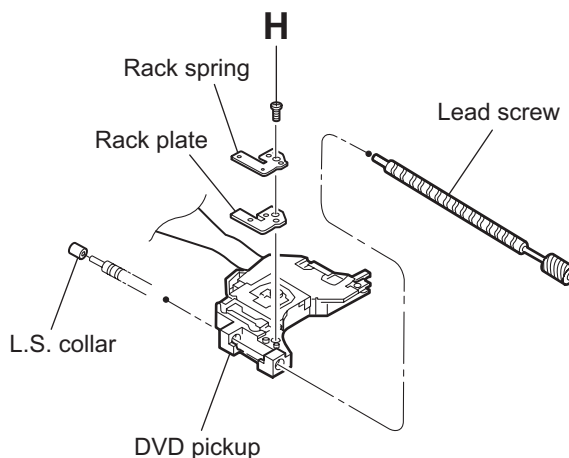

Fig.19
- (4) Remove the screw **H** attaching the rack spring/ rack plate on the DVD pickup. (See Fig.19.)
- (5) Pull out the lead screw. (See Fig.19.)
- When releasing the lead screw, the L.S. collar comes off at the end of the lead screw. When reassembling, reattach the L.S. collar to the lead screw. (See Fig.19.)